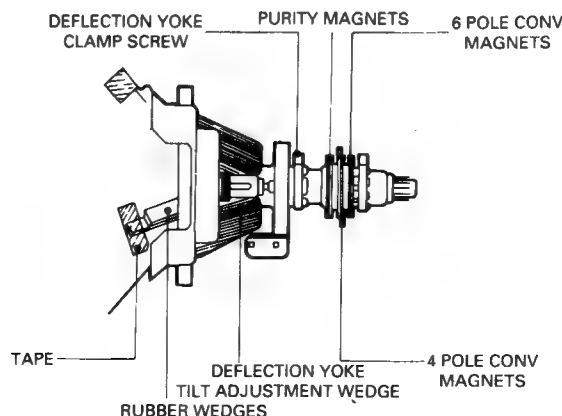

FIG. 5 PICTURE TUBE NECK COMPONENT
1. Check for correct location of all neck components (See figure. 5).
5. Loosen the deflection yoke tilt adjustment wedges (3), loosen the deflection yoke clamp screw and push the deflection yoke as close as possible to the CRT screen.